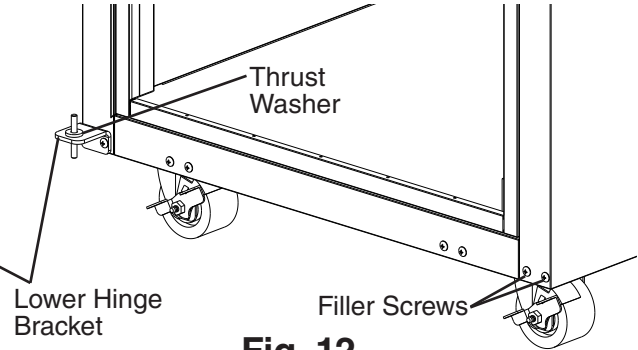

Fig. 12
- 5) Secure the lower hinge bracket to the opposite side lower hinge bracket location, then place the thrust-washer on the lower hinge bracket. See Fig. 12.